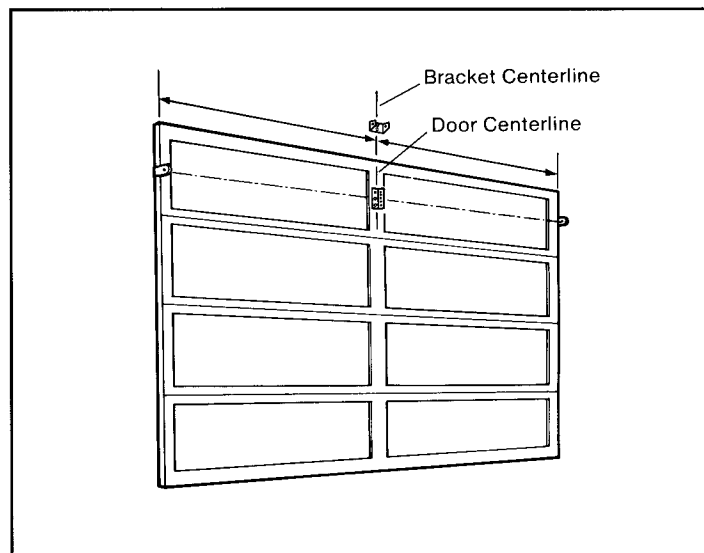

Figure 6
Step 12: Determine centerline of door (see Figure 6). Mark center line on header and top of door.
Step 19: Center the power head and channel in line with the header bracket. To accomplish this, align channel with pencil mark at the top center of the door as shown in Figures 6 and 10.